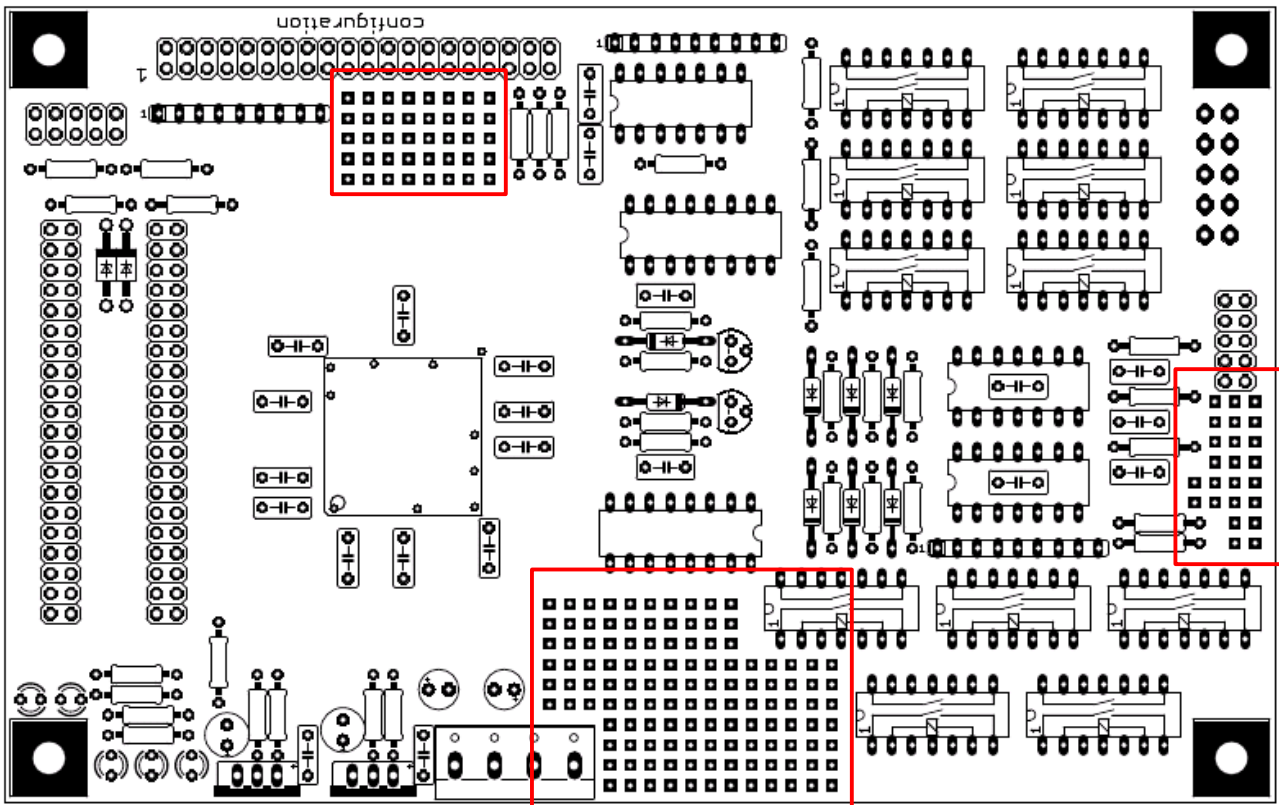

Figure 24: Solder Pad Arrays
1. As precaution provide solder pads **in advance** as shown in the drawing below framed **red**. Solder pad arrays of this kind can be made by pads or lots of vias. Pads, as shown in Figure 24 are “real” electrical devices (with symbol in schematic and package in layout). Vias in turn can be placed in the board only. They do **not** have a counterpart in the schematic. Modifications or extensions soldered there look relatively good and are of stable mechanical nature.